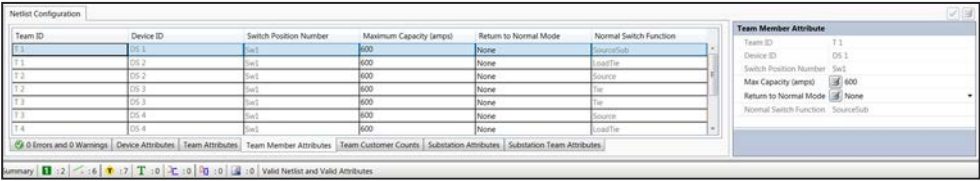

Figure 78. The Team Member Attributes tab is used for editing team member settings.
- STEP 4.** Click on the **Team Member Attributes** tab below the configuration dialog box and the Team Member Attribute dialog box will open to the right. Highlight the Team ID entry for the team to configure. See Figure 78.